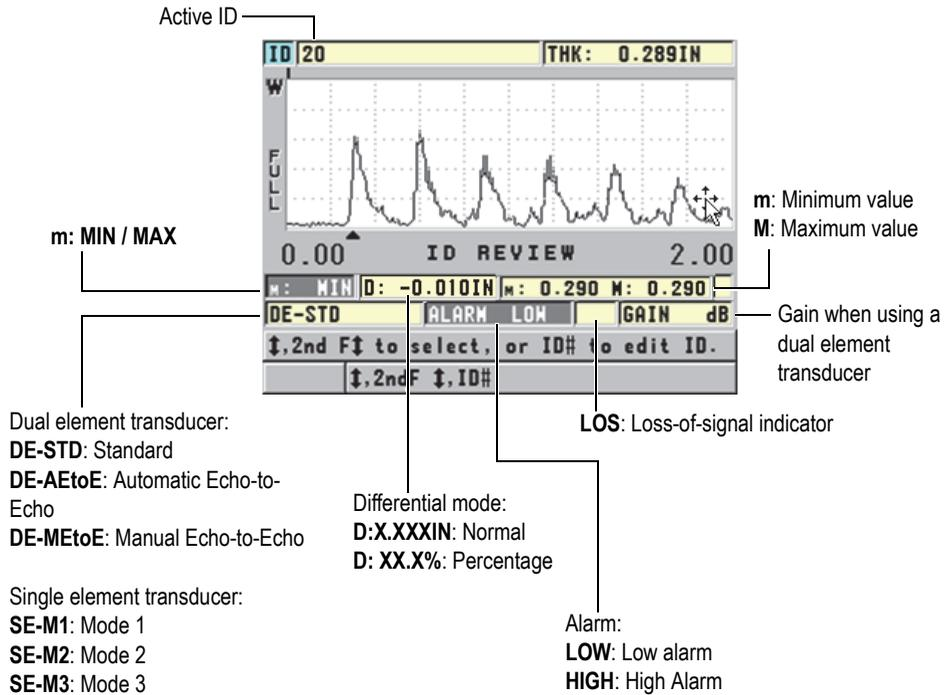

Figure 6-36 Identifying the ID review screen
Figure 6-36 on page 113 shows an example of the ID review screen and describes its contents. The area under the waveform is reserved for status flags describing the displayed stored thickness values. The flags are the same single letter abbreviations for status words transmitted by the gage using the send commands (see section 11 on page 181).
3. While in the ID review screen (see Figure 6-36 on page 113), perform the following actions: